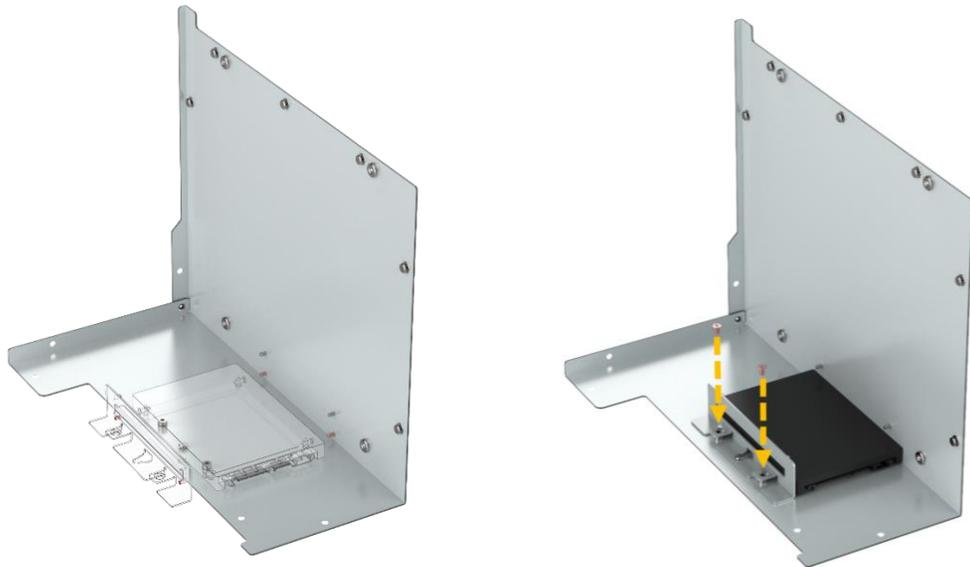

Figure 3-9: Secure the Hard Drive
Step 2: Align the four studs on both of the bracket and the cover with the holes on each side of the hard drive. Then secure the drive with the attached bracket onto the cover with the two screws removed previously (**Figure 3-9**).